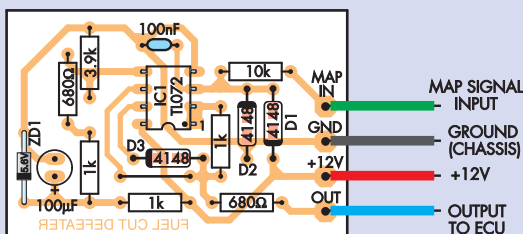

Fig.2: follow this parts layout diagram to build the Fuel Cut Defeater. Note that diodes D1 and D2 face in opposite directions.
The circuit operation is clearly demonstrated in the scope waveforms of Fig.2.
Fig.2: the top waveform (yellow trace) is the input signal (a series of negative-going pulses). The middle waveform (purple trace) is the signal at the cathode of D1. The bottom trace (cyan) is the output waveform at the collector of Q2.
Assembling the PC board (see Fig.2) is straightforward, but make sure that you install op amp IC1 and the diodes the right way around.
– see Fig.2. Male and female